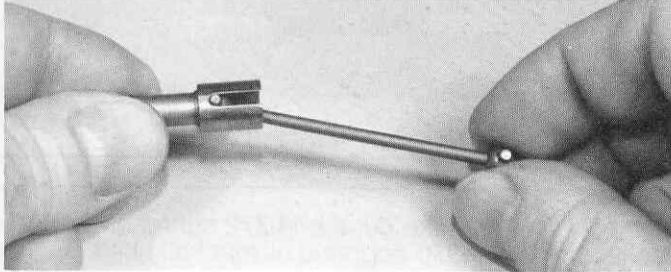
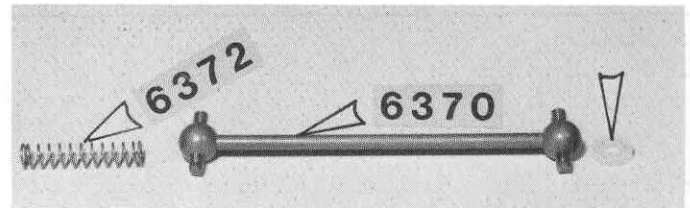

Fig. 109
Fig. 115
□ **Fig. 109** Before proceeding with the assembly of the rear hub carrier it's a good idea to check fit of the dogbone in the stub axle. If it does not slide and swivel freely then check for burrs around the dogbone pins or heat treating residue inside the stub axle. Also check that the spring fits freely in the small hole at the bottom of the dogbone socket (see Fig. 115). If either of these holes are clogged they can be cleaned by soaking the stub axle in hot or boiling water for a half hour. Dry and oil the stub axle after cleaning.
□ **Fig. 115** Take out the #6372 spring and nylon washer and the #6370 dogbone or rear half-shaft. Push the nylon washer into the #6612 axle drive gear.